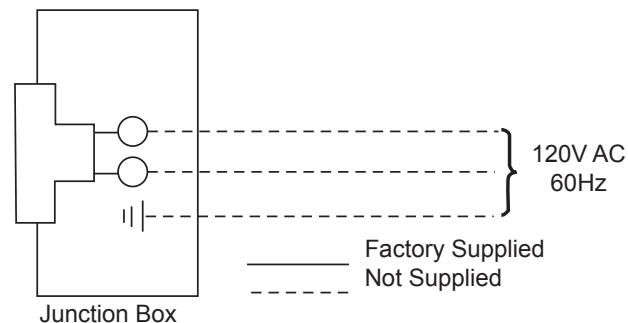

Figure 44 -
3. The junction box cover has a factory installed "romex" style strain relief connector. After connecting the wires, route the wire leads through this connector. Refer to the wiring diagram in *Figure 44*.